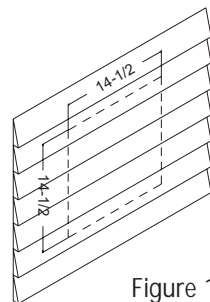

Figure 1
exterior wall cap. (fig 1)
3. Install the fans grill by positioning the grill over the hole and aligning the center hole with the grill mounting hole on the motor bracket. (fig 1)